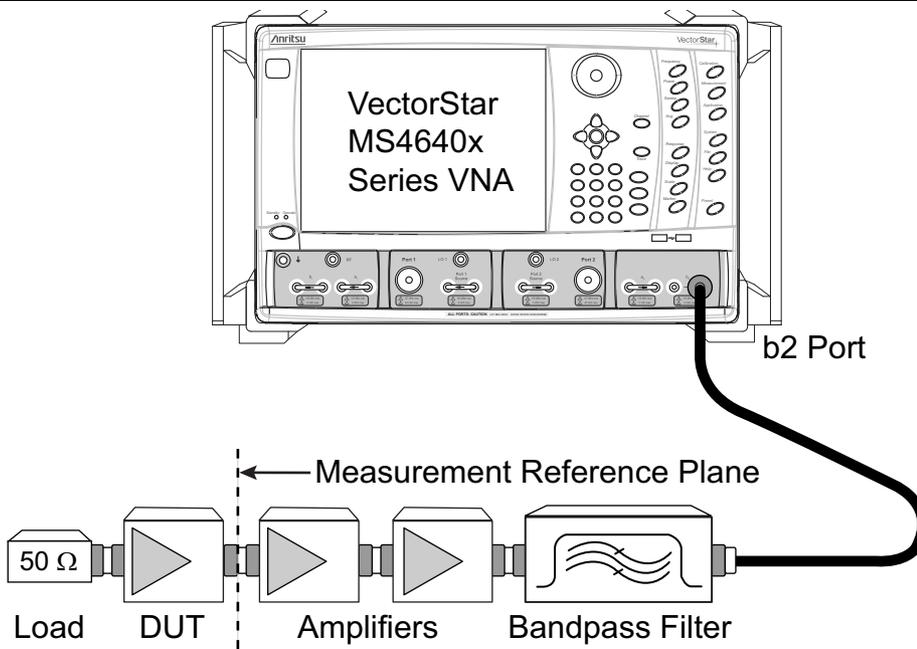

Figure 1-3. DUT Measurement
- 8. DUT Measurement (Figure 1-3).